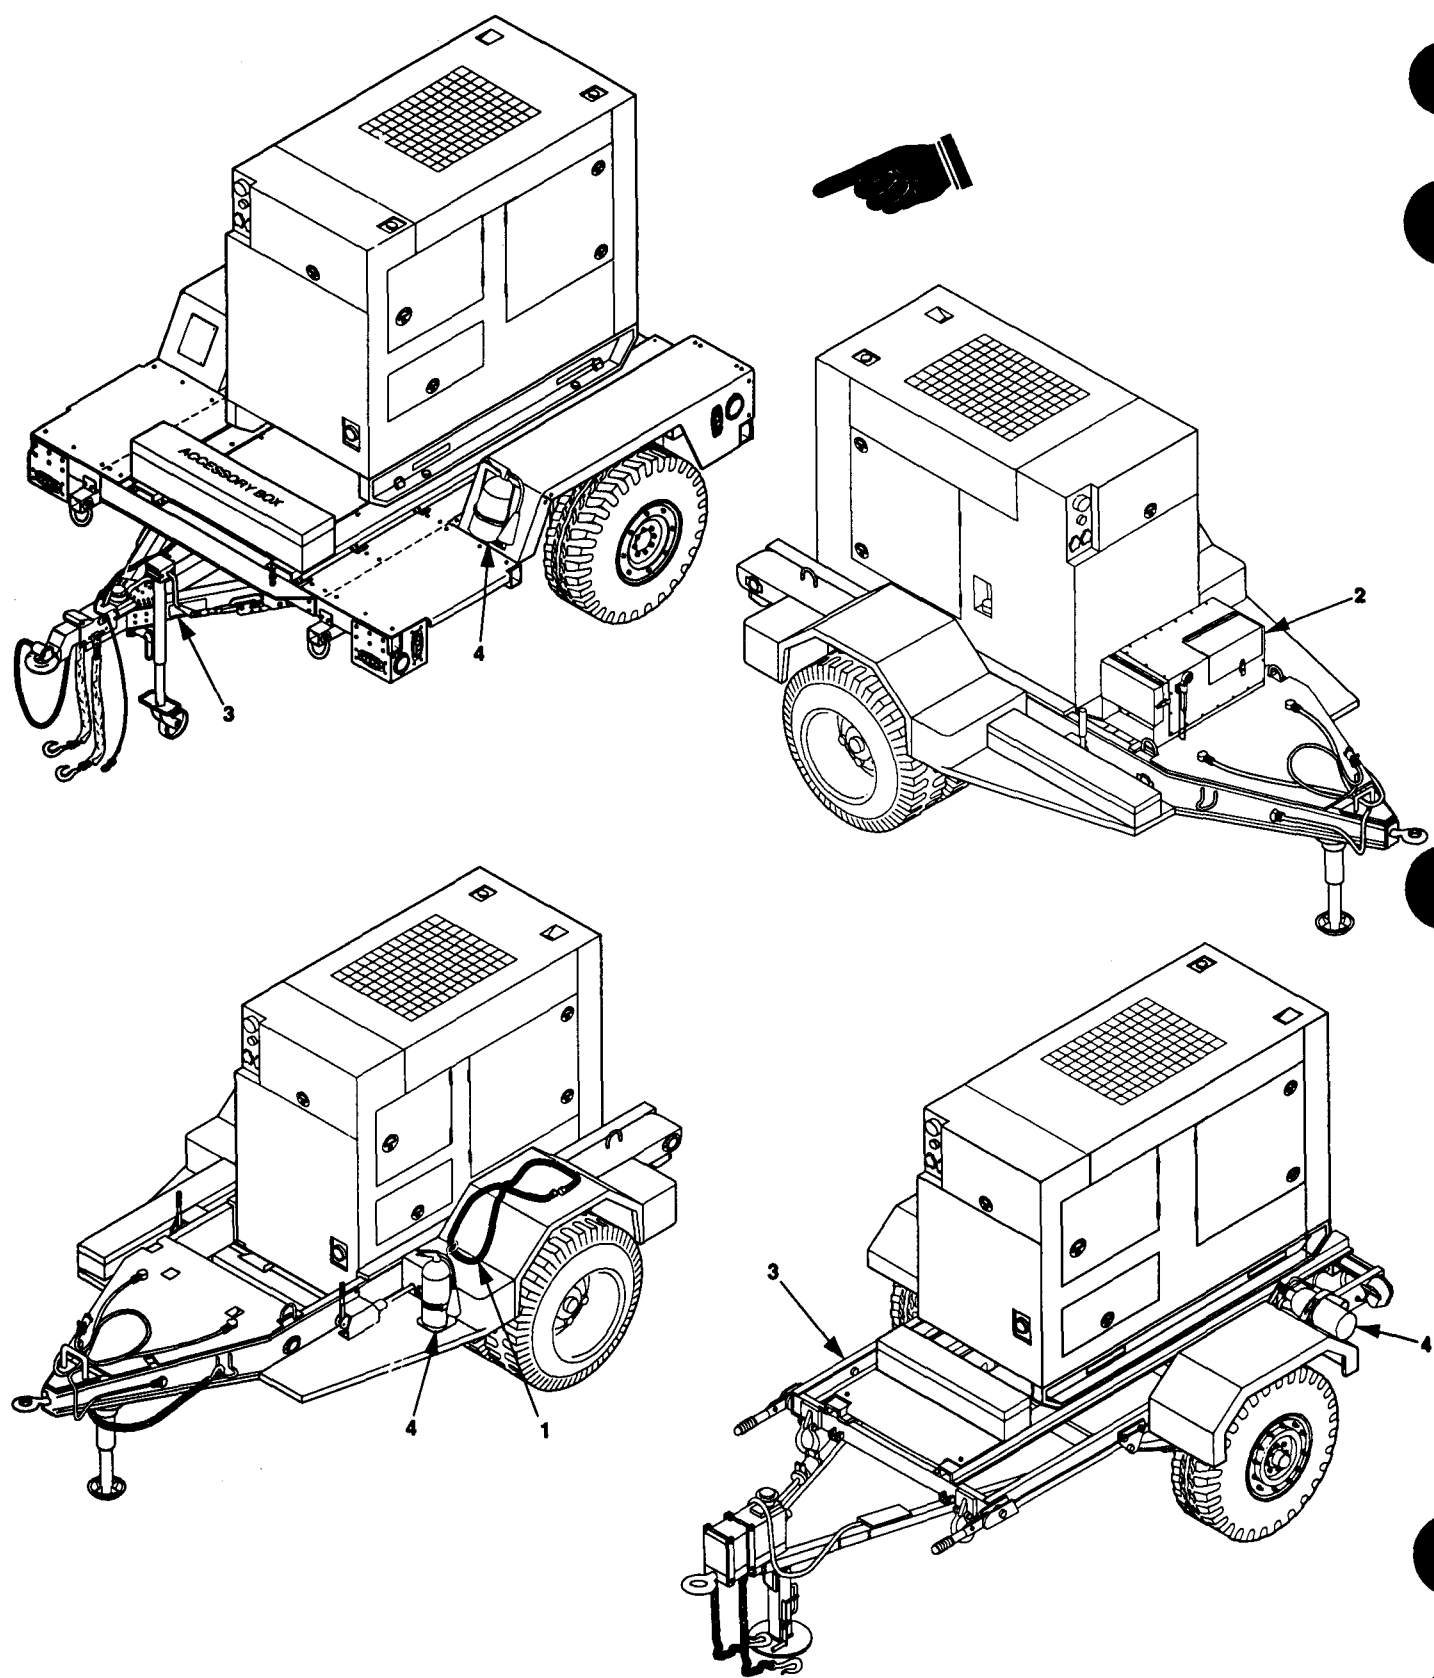

Figure 4-4. Unit PMCS Routing Diagram.
**4-8.4 Special Instructions.** Preventive maintenance is not limited to performing the checks and services listed in the PMCS table. See figure 4-4 for PMCS routing. Covering unused receptacles, stowing unused accessories, and other routine procedures such as equipment inventory, cleaning components, and touch-up painting are not listed in the table. These are things you should do any time you see that they need to be done. If a routine check is listed in the PMCS table, it is because experience has shown that problems may occur with this item. Take along tools and cleaning cloths needed to perform the required checks and services.